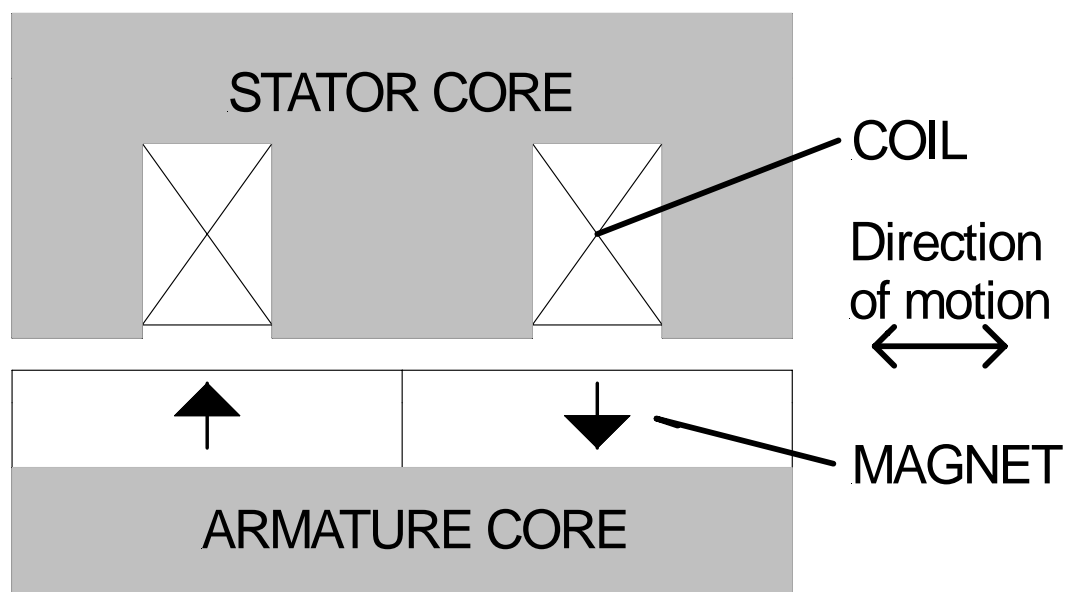

Figure 4a - Schematic cross-section through a single-phase permanent magnet linear actuator (displacement shown corresponds to 0mm)
4. Figure 4a shows a cross-section through a single phase, permanent magnet linear actuator. It consists of an E-core iron stator which is wound with a single coil, and an armature with two permanent magnets and an iron core